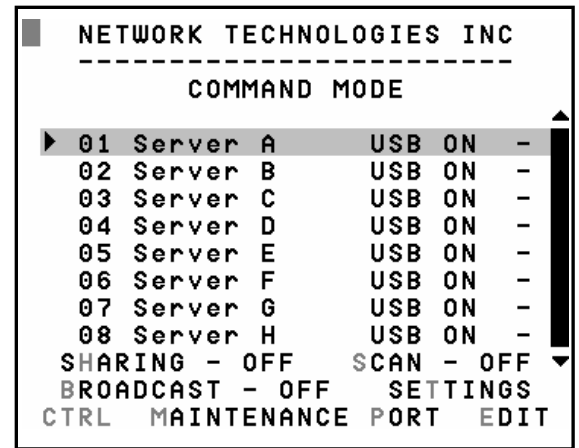

Figure 15- Command Mode additional options
**Note:** When the user presses and holds the <Ctrl> key from the first Command Mode image, the additional options of Maintenance, Port, and Edit will appear. (See Fig. 15)